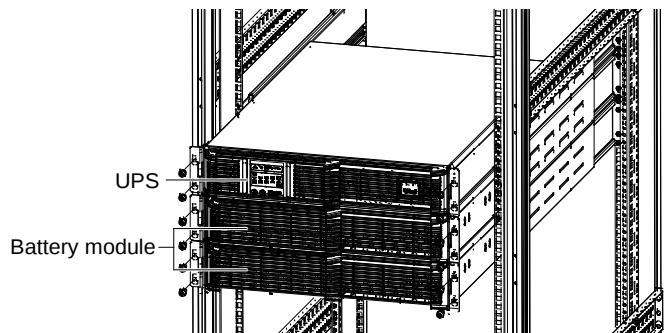

Figure 2-6 Rack installation of standard UPS with single UPS and two battery modules
3. The installation method of the UPS is the same as that of the battery module. Install the UPS on top of the battery module. The rack installation method of standard UPS with single UPS and two battery modules is shown in Figure 2-6.